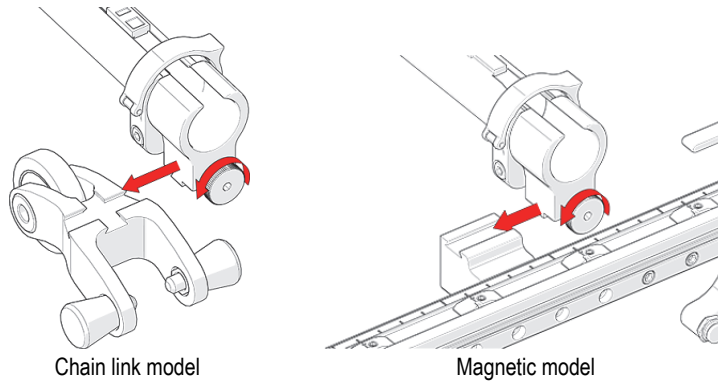

Figure 3-50 Loosen and slide on
1. Loosen the knob on the zipper tube dovetail mount. Slide the mount onto the dovetail link (see Figure 3-50 on page 68).